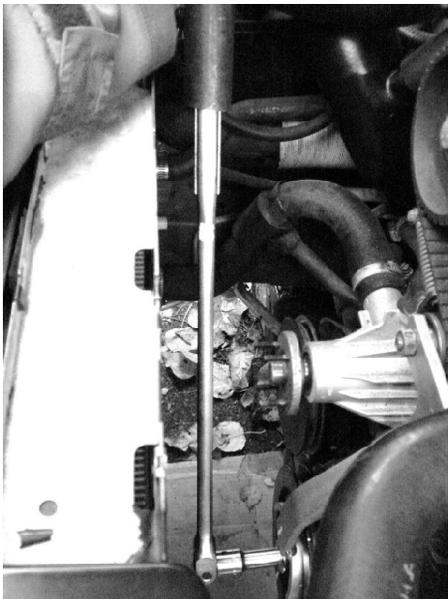
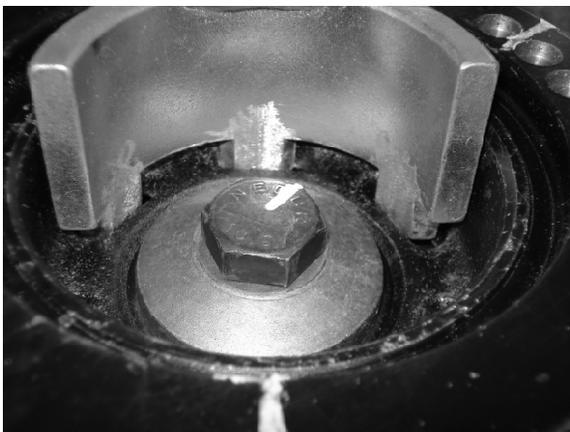

Figure 23.
Figure 24.
9. After setting initial torque of 44 ft-lbs, make a vertical mark on the crankshaft bolt at 12:00 (Figure 22). The Bentley manual says that the correct torque means another 60 degrees of turning clockwise. I then used a torque wrench set at 150 ft-lbs and was only able to turn the bolt through ~40 degrees. Next, I used a long-handled wrench with cheater bar (Figure 23), but was only successful in turning the bolt an additional 8 degrees for a total of about 48 degrees (Figure 24). Good enough for me!